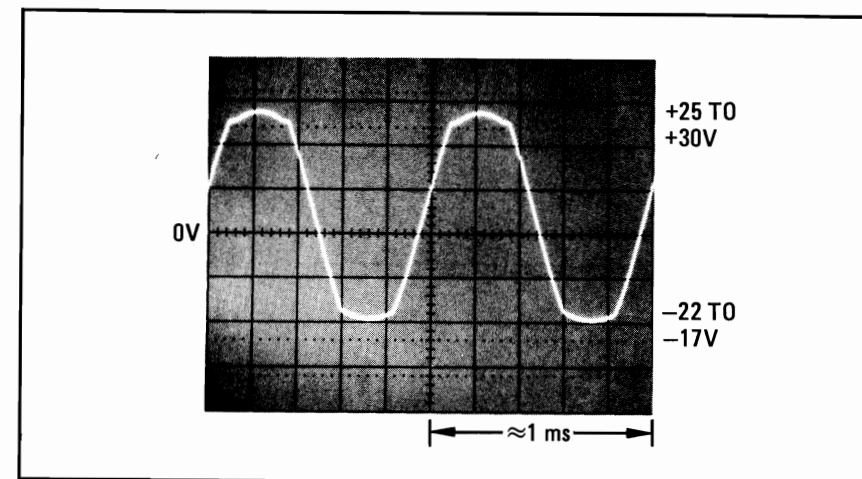

Figure 8-51. Over-Voltage Protection Check Waveform A
5. Increase the test oscillator level to approximately 30 Vpp. The waveform on the oscilloscope should appear as shown in Figure 8-51.